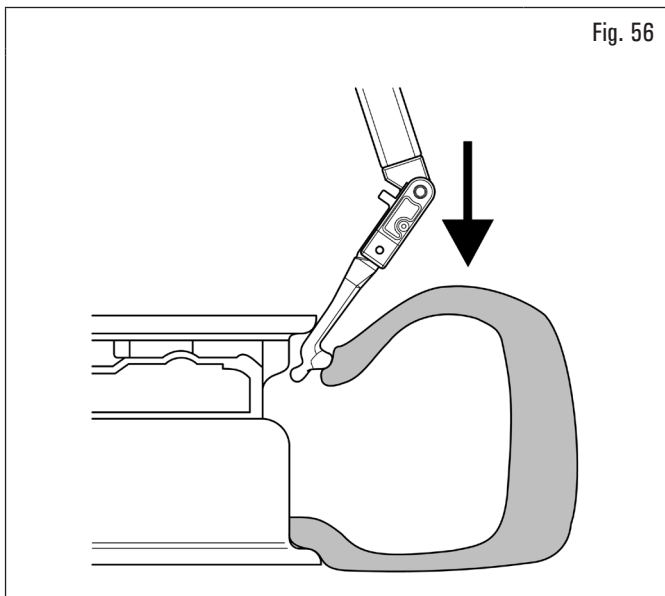
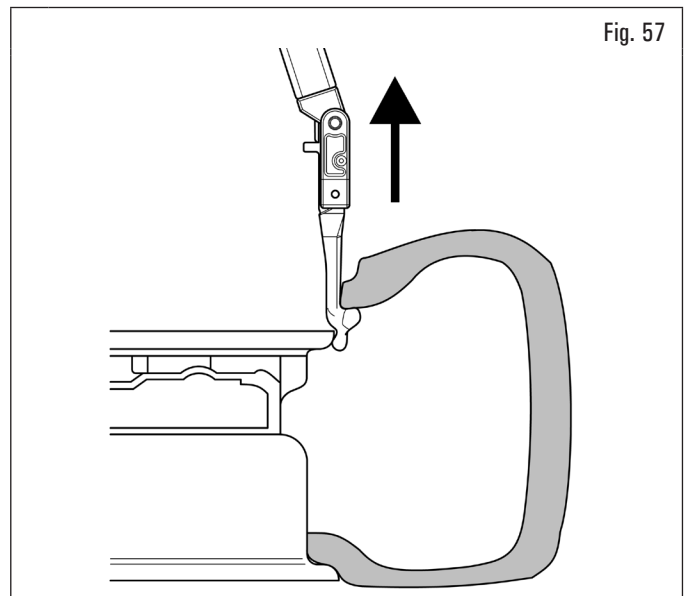
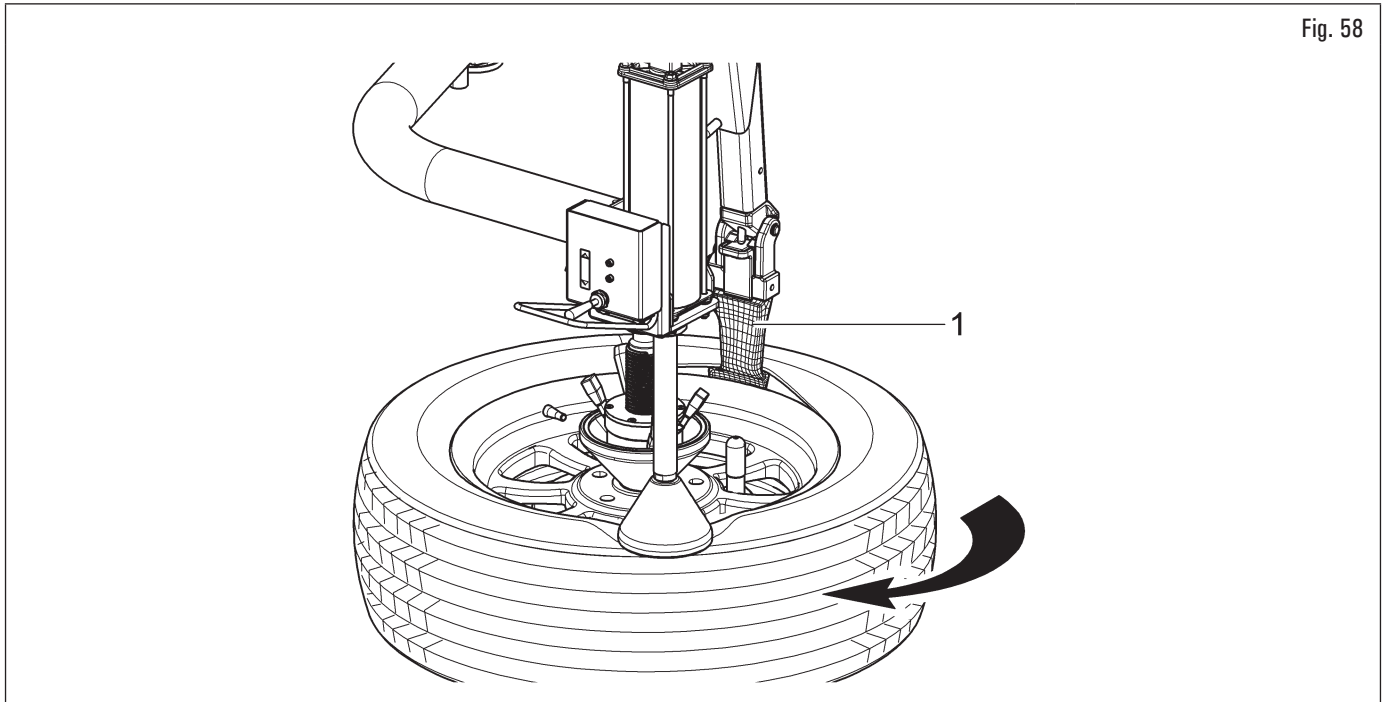

Fig. 56
Fig. 57
Fig. 58
- press the push button (Fig. 6 ref. C (LOW)) so that the toolhead penetrates between rim and tyre (see Fig. 56). While this operation is being performed, the toolhead rotates around the rim edge until it hooks the tyre bead (see Fig. 57);
- lift the toolhead by pressing the appropriate control (Fig. 6 ref. C (UPP)). When the toolhead is vertical with respect to the rim (Fig. 58 ref. 1), rotate the spindle, pressing the pedal (Fig. 9 ref. A), so that the tyre fits into the rim drop centre. Keep on raising the toolhead until the bead is on the rim edge (see Fig. 57). Rotate clockwise until the upper bead is completely disassembled (see Fig. 58);
Make sure that the toolhead is in the disassembly position (see Fig. 57) before starting spindle rotation.